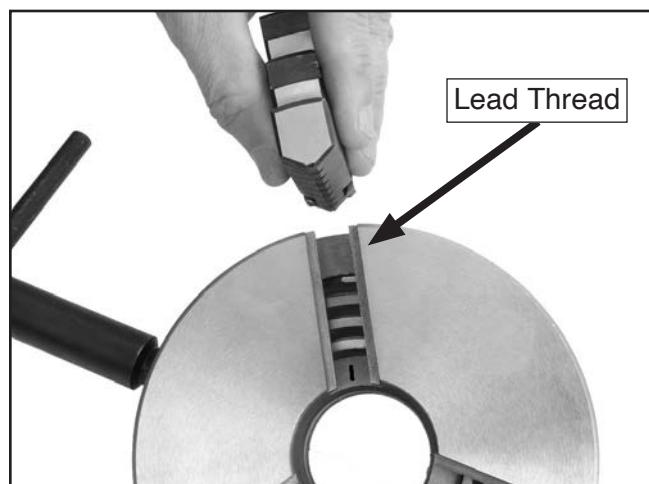

Figure 19. Installing jaw #1.
- Insert the chuck key into a scroll keyway and rotate it until you see the beginning of the scroll gear's lead thread come into view through the #1 jaw guide, then back off slightly until it disappears (see **Figure 19**).